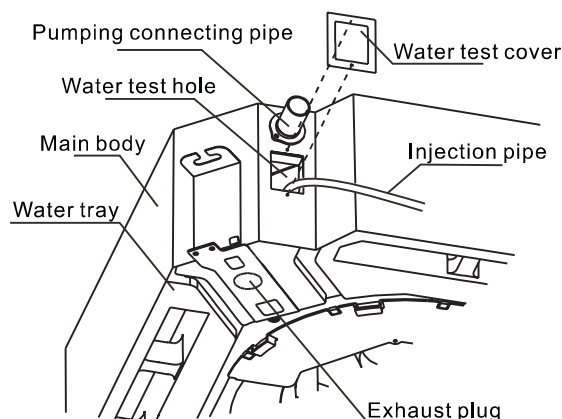

Figure 4.3
1) Remove water trying cover, through water trying mouth; inject about 2,000 ml of water into water tray through injection pipe. (See Figure 4.3)